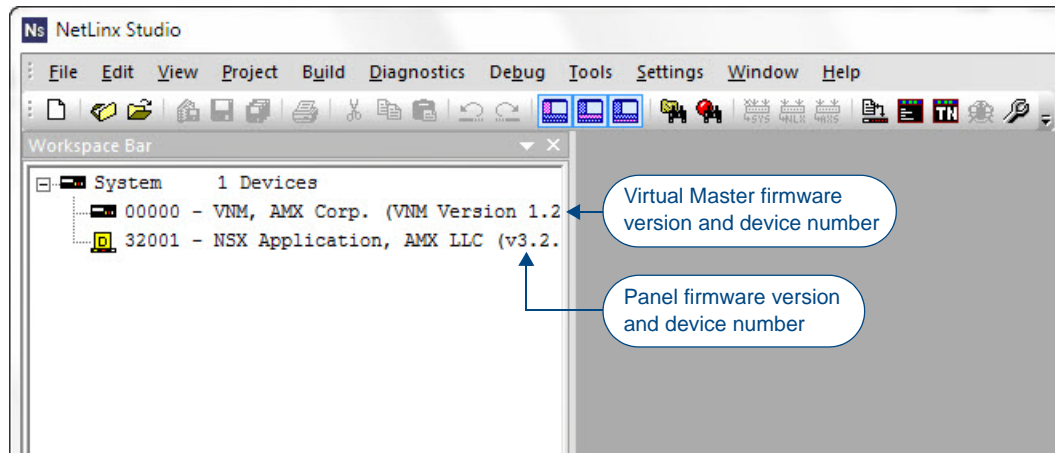

FIG. 28 NetLinx Workspace window (showing panel connection via a Virtual NetLinx Master)
1. After the *Communication Verification* dialog window verifies active communication between the Virtual Master and the panel, click the **Online Tree** tab in the Workspace window (FIG. 28) to view the devices on the Virtual System. *The default System value is 1.*
2. Right-click on the System entry (FIG. 28) and select **Refresh System** to re-populate the list. Verify the panel appears in the **Online Tree** tab of the Workspace window.